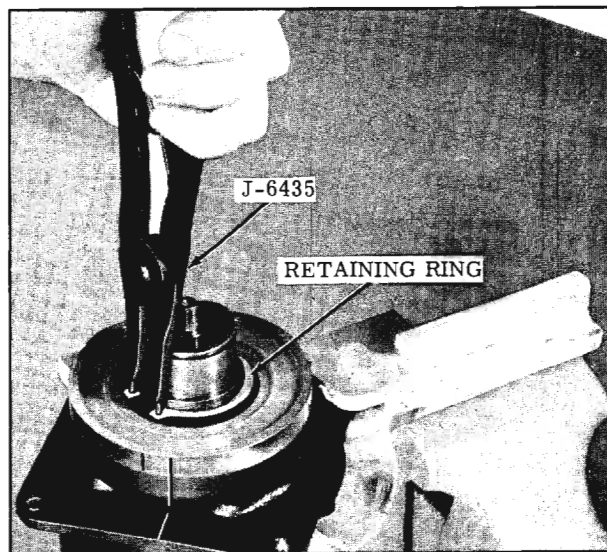

Fig. 15-51 Removing Coil Housing Retaining Ring
2. Remove the clutch coil housing retaining ring with Tool J-6435. (Fig. 15-51)